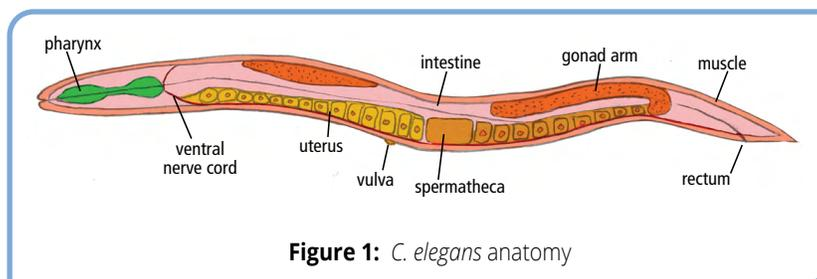
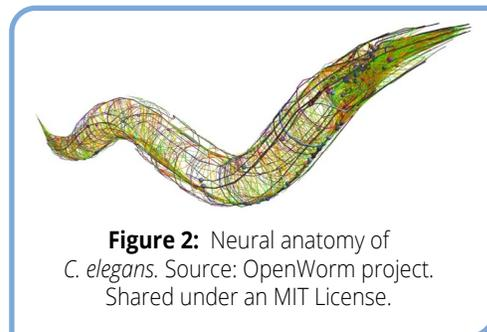

Figure 1: *C. elegans* anatomy
Figure 2: Neural anatomy of *C. elegans*. Source: OpenWorm project. Shared under an MIT License.
C. elegans is a free-living, non-parasitic nematode that lives in temperate soil, where it feeds on microbes that are found in decaying organic matter. Adult worms measure approximately one millimeter (mm) in length. The outer cuticle of *C. elegans* is transparent, making it easy to visualize growth and development of internal structures like the pharynx, the intestine, the gonads and the muscles (Figure 1). The worm also has an extensive nervous system – in fact, the nervous system comprises almost 1/3 of the worm's 959 somatic cells! This makes *C. elegans* a valuable model system for neuroscientists (Figure 2).